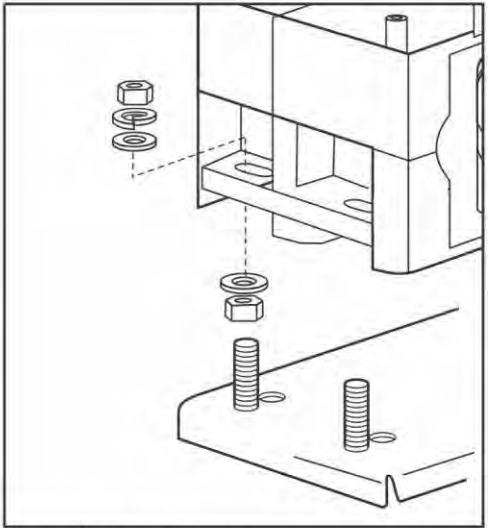

Figure 14 Secure the Operator
8. Secure the motor in place with 6 flat washers, 3 spring washers and 6 nuts supplied, as shown in Figure 14.